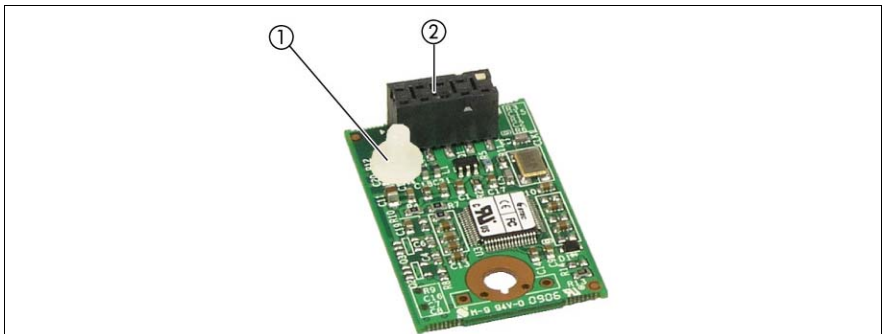

Figure 164: Preparing the UFM board
- Only the nylon screw (1) and the UFM board (2) are used from the available UFM installation kit, see figure 164.